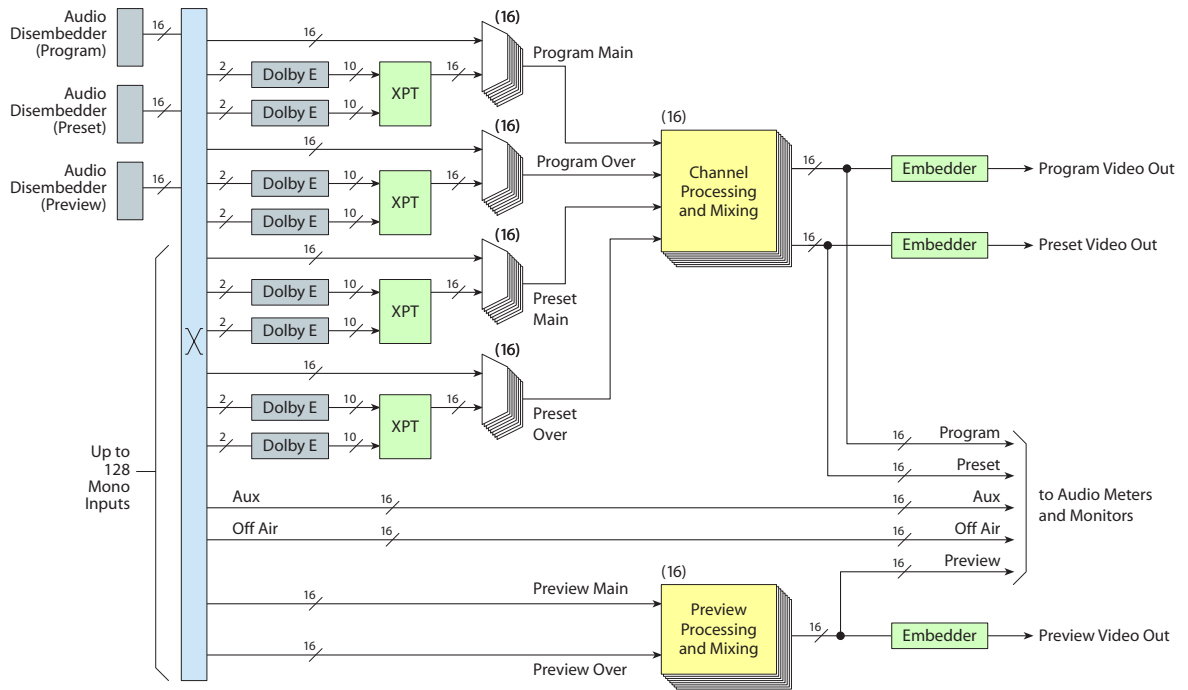

Figure 5-2. Audio Processing Section (Dual Dolby for Program and Preset, Main Sources and Overs)
- Dual Dolby decoders supporting overs on the program and preset buses. (Refer to Figure 5-2.)
Figure 5-2 shows the schema for MCEs with dual Dolby decoders supporting program and preset main sources and program and preset overs: